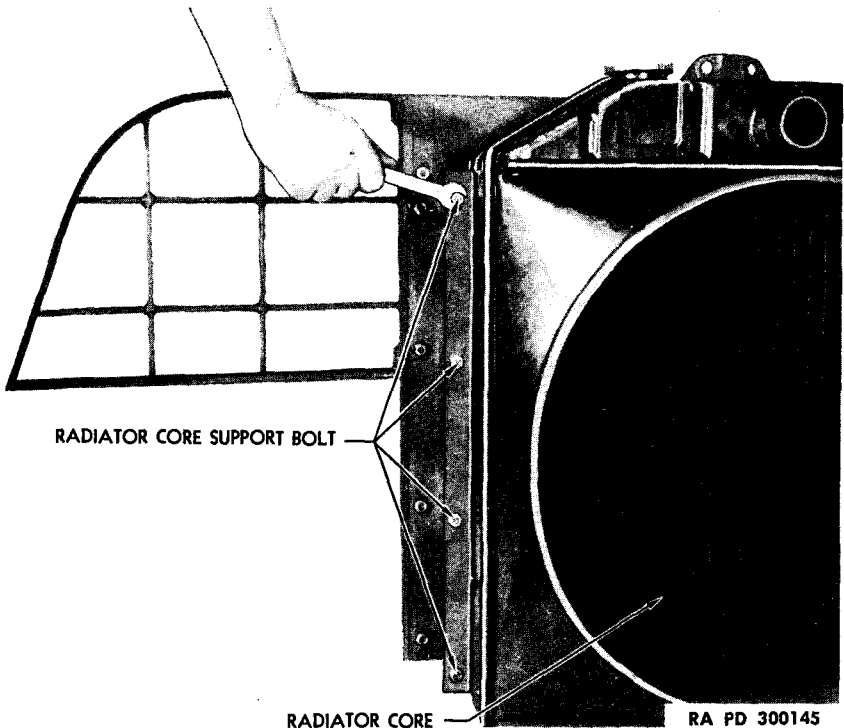

Figure 53—Removing Brush Guard from Radiator
(1) ATTACH BRUSH GUARD TO RADIATOR. Install and tighten eight bolts, nuts, and lock washers which attach brush guard side support to radiator core flange (fig. 53).
(2) INSTALL RADIATOR AND BRUSH GUARD ASSEMBLY. Place unit in position on front cross member. Make sure insulating spacers are installed between brush guard and cross member.
(3) INSTALL MOUNTING BOLTS. Install 12 bolts, nuts, and lock